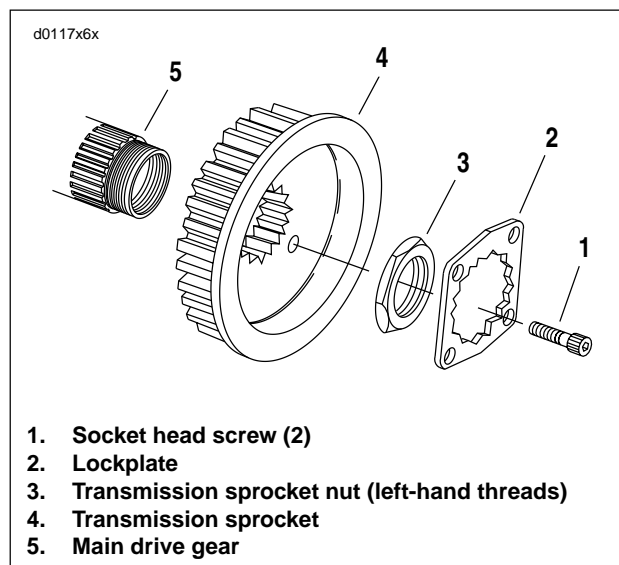

Figure 6-89. Transmission Sprocket
8. See Figure 6-89. Place transmission in first gear. Remove two socket head screws (1) and lockplate (2).
1. See Figure 6-89. Install transmission sprocket (4) with secondary drive belt onto main drive gear (5).
3. Apply a few drops of LOCTITE 262 (red) to the **left-hand threads** of transmission sprocket nut (3) and lightly coat the washer-faced side with clean H-D 20W50 engine oil. Wipe off any excess oil.
9. See Figure 6-89. Install lockplate over nut so that two of lockplate's four drilled holes (diagonally opposite) align with sprocket's two tapped holes.
10. See Figure 6-89. Install two socket head screws through aligned holes of lockplate and into tapped holes of sprocket. Tighten to 90-110 **in-lbs** (10.2-12.4 Nm).